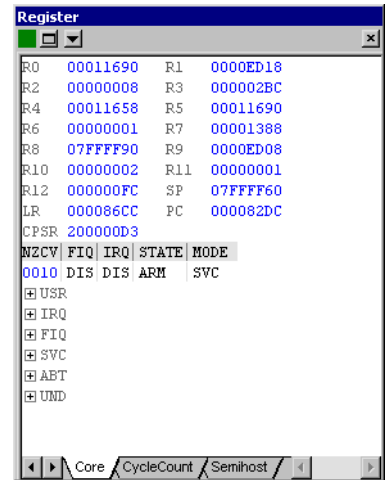

Figure 7-1 Register pane
8. The contents of the Register pane are updated to show the program status as the target stops, shown in Figure 7-1.
If your target processor is configured using .bcd files, additional tabs are also to be found to the right of the standard tabs shown in Figure 7-1.